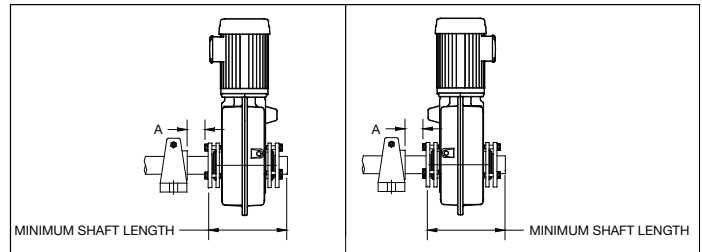

Figure 8 - Minimum Recommended Dimensions
1. One bushing assembly is required to mount the reducer on the driven shaft. An assembly consists of two tapered bushings, bushing screws and washers, two bushing backup plates and retaining rings, and necessary shaft key or keys. The driven shaft must extend through the full length of the reducer. If the driven shaft does not extend through the reducer do not use the standard tapered bushings; instead use the short shaft bushings as described in the Short Shaft Bushings section that follows. The minimum shaft length, as measured from the end of the shaft to the outer edge of the bushing flange (see Figure 8), is given in Table 6.
1. One bushing assembly is required to mount the reducer on the driven shaft. An assembly consists of one long tapered bushing, one short tapered bushing, one tapered bushing wedge, bushing screws and washers, two bushing backup plates and two retaining rings, and necessary shaft key or keys. The driven shaft does not need to extend through the reducer for the short shaft bushing to operate properly. The minimum shaft length, as measured from the end of the shaft to the outer edge of the bushing flange (see Figure 8), is given in Table 1.